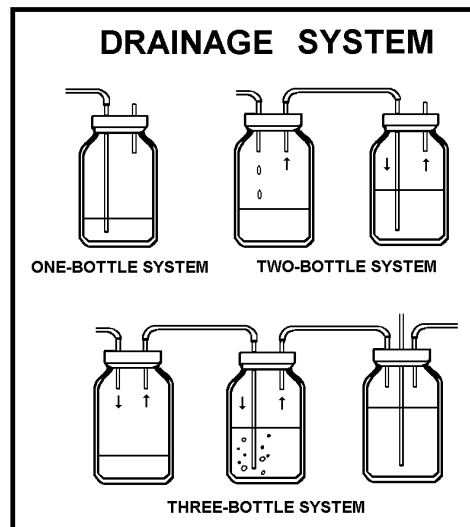

Figure 3-60
3. Assess the waterseal drainage system to ensure proper setup and functioning. (See Figure 3-60.)